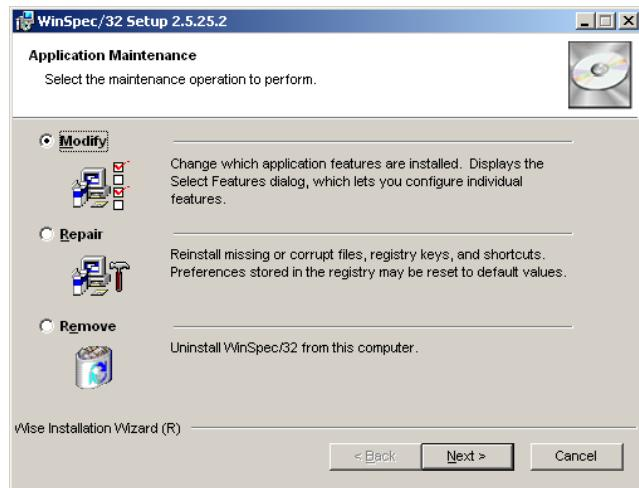

Figure 210. Application Maintenance dialog
3. Because WinSpec/32 was previously installed, the **Application Maintenance** dialog (Figure 210) will be displayed.